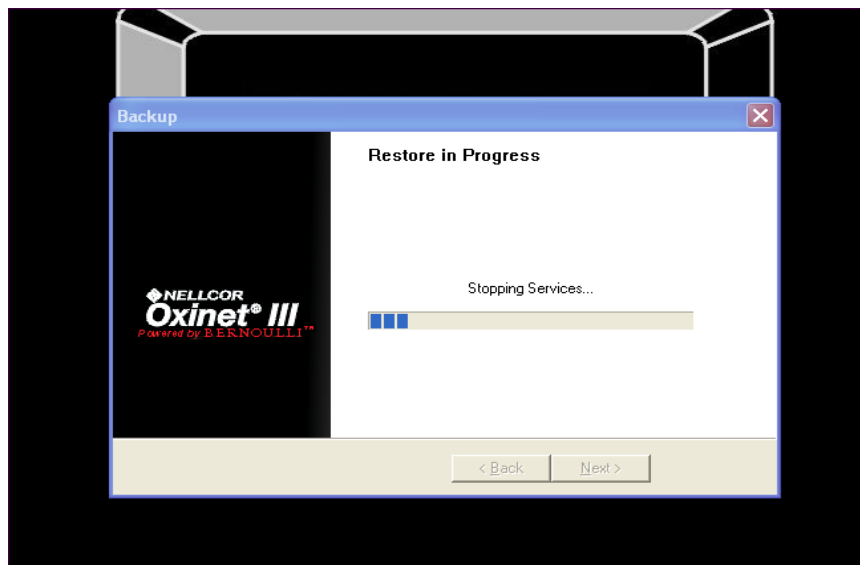

Figure 20: Restore in Progress
- 8 The system begins the backup process and displays the message: **Restore in Progress** (Figure 20).